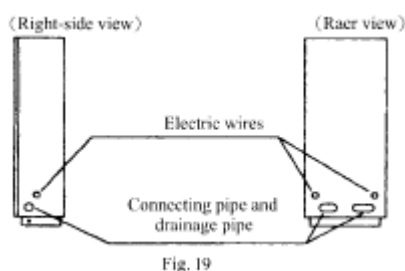

Fig. 19
4. Choose one of the four hole-positions (2 in the side and 2 on the rear) according to installation place (see Fig. 19), break it through and fit in passing hole cover for the passing of connecting pipe, drainage pipe and wires.